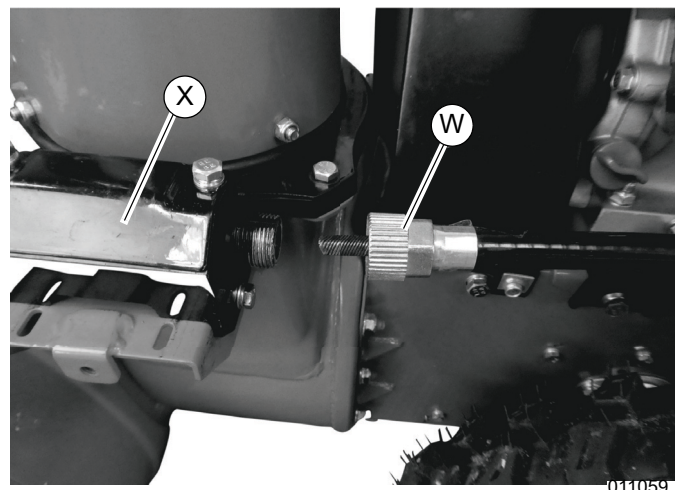

Figure 2-13. Rotation Bracket Cable
14. See Figure 2-13. Screw end of rotation bracket cable (W) onto rotation bracket (X).